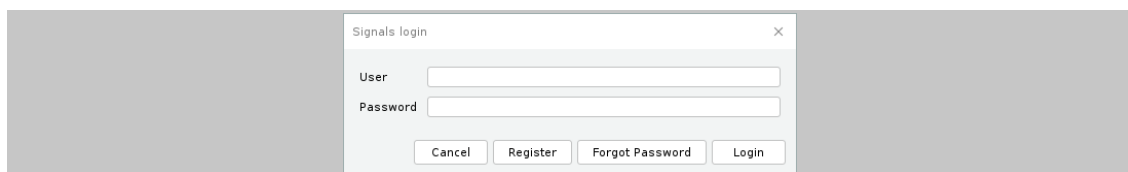

Figure 1: The Login window
2. If you don't have an IAV Merida account, please press the Register button (see Figure 1) and a new browser window opens.
5. When the registration process is finished you can close the browser and proceed to enter your username and password to the login window (see Figure 1)